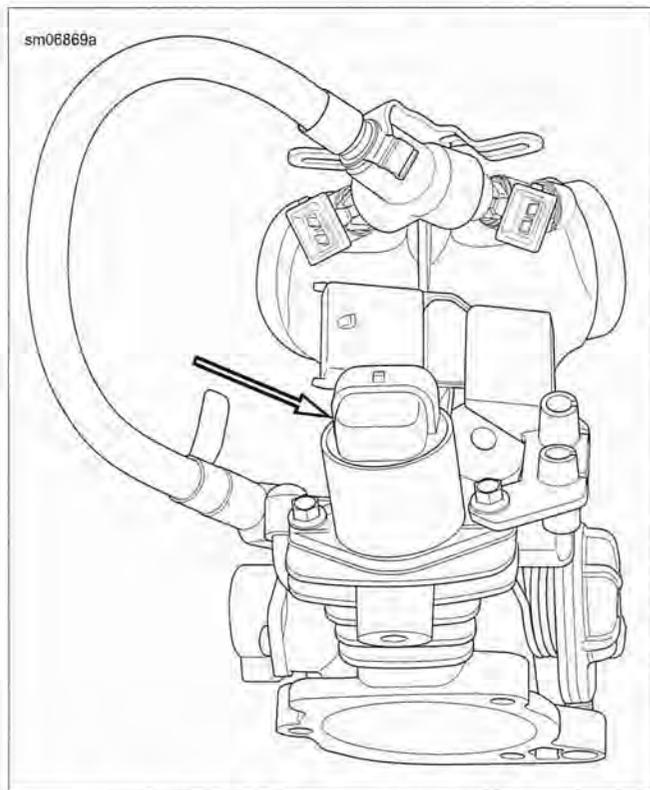

Figure 4-48. Idle Air Control (IAC): XL Models
**XL Models:** See Figure 4-48.